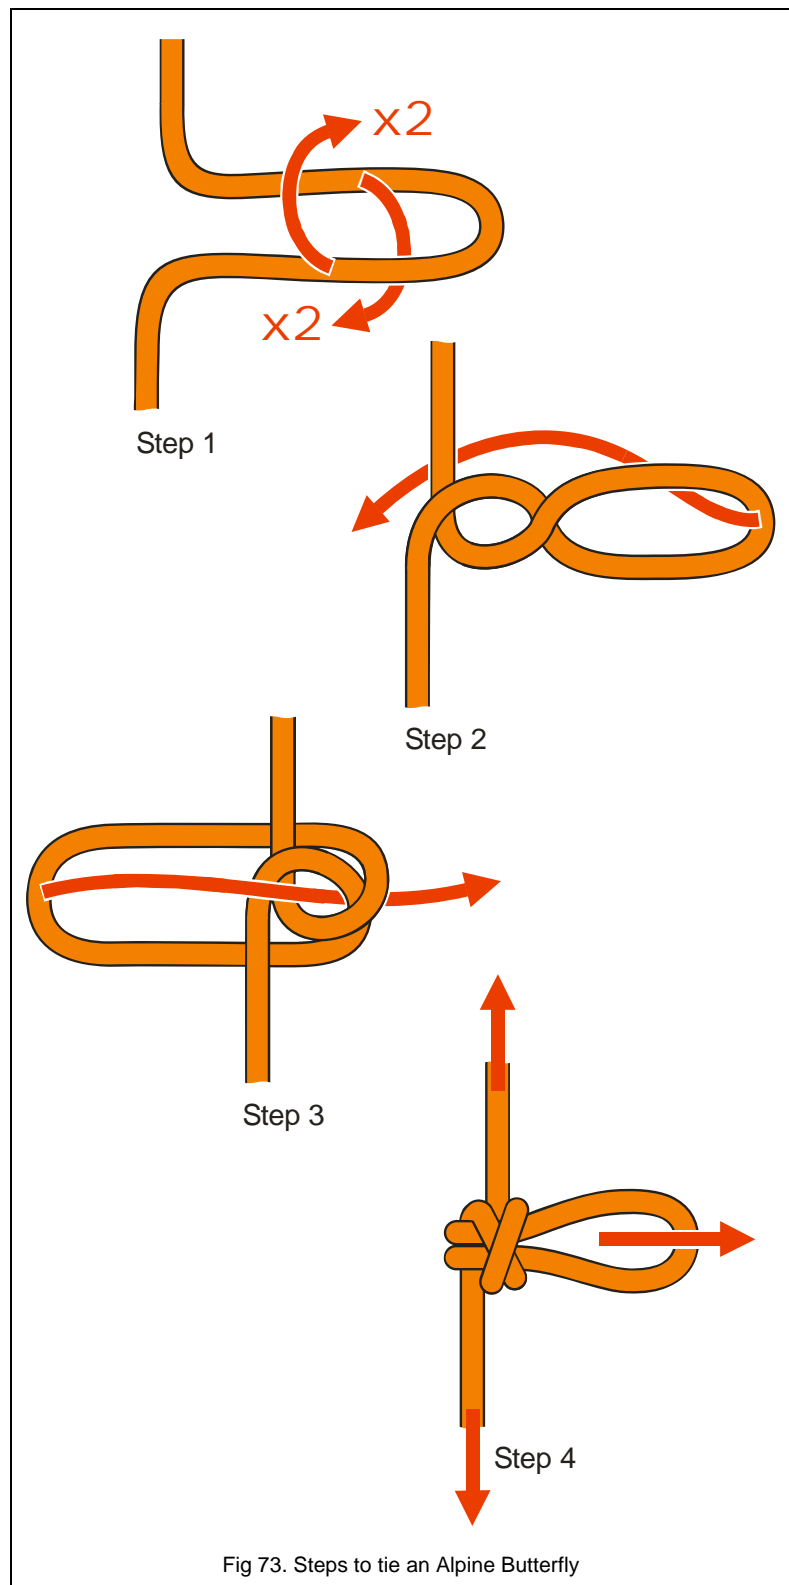

Fig 73. Steps to tie an Alpine Butterfly
4. Dress the knot and pull all parts of the knot to pack as shown in figure 73.